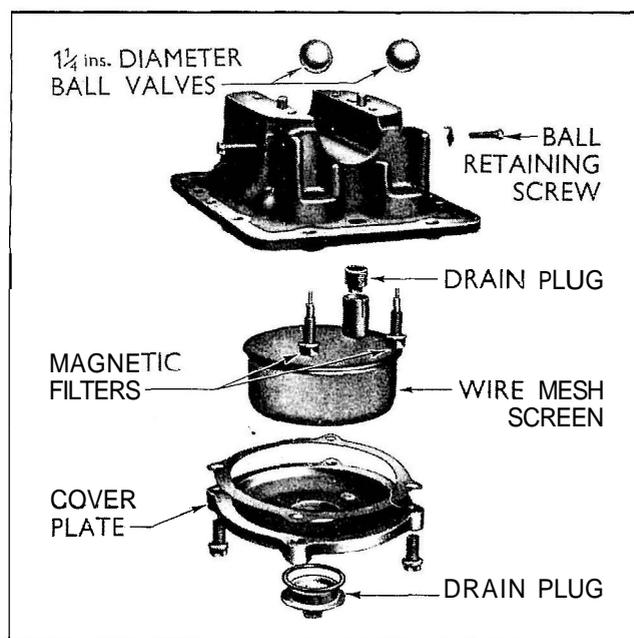

Fig. 180
The two magnetic filters are located in the pump pedestal so that as the oil passes into the wire mesh screen filter compartment all ferrous metal particles that may be present are extracted. (See Fig. 180.)
On early type tractors $1\frac{1}{4}$ in. diameter steel ball valves could be fitted if desired, and are located above the magnetic filter bolts, so that when the bolts are removed the ball valves seat in the inlet passages and seal off the wire mesh screen filter compartment. (See Fig. 180.)
- 1 Drain the rear axle oil (if ball valves are not fitted). Remove the cover plate and gasket (four bolts and lockwashers) and lift out the wire mesh screen. (See Fig. 180.)